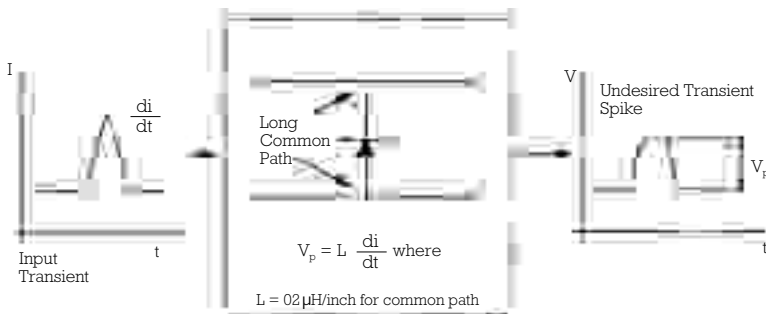

Fig. 22-1. Minimizing the common path. Incorrect method.
- Minimize the «common path» through the diode to minimize voltage spikes produced by fast risetime transients in lead and wiring stray inductance. See figure 22-1 and 22-2.